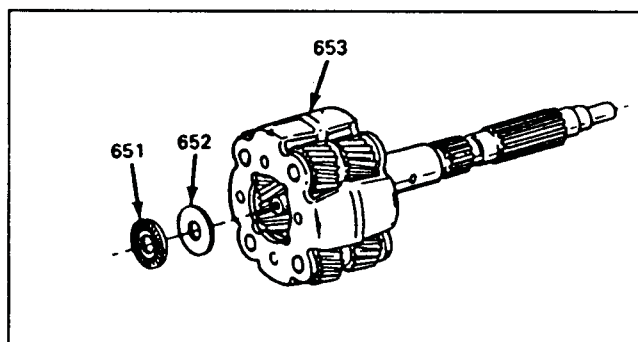

Figure 92
8. Install the thrust bearing race and the thrust bearing inside the planetary carrier, as shown in Figure 92, retain with petrolatum.